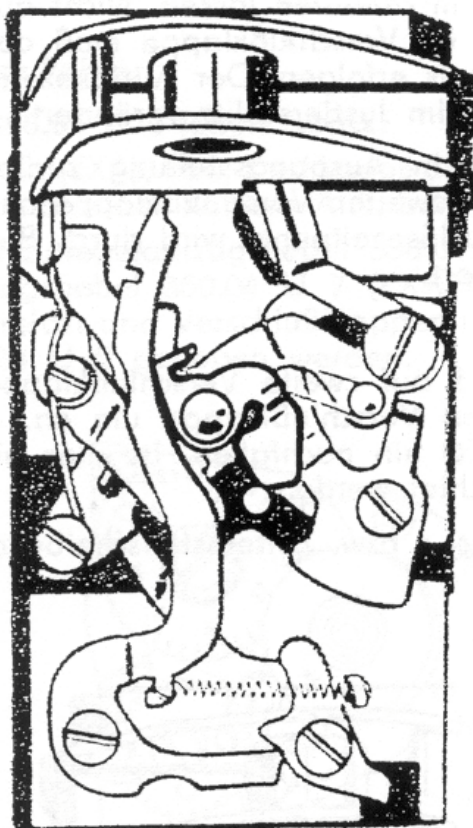

Fig. 4
- j) Holding the first shutter flap with a finger, fire the shutter and let the first shutter flap run slowly. The release pin for the shutter flap (see Fig.4), must now release the second shutter flap in the indicated position. If this does not occur, the trip lever 350.04-13 [the long vertical lever] must be bent at its lower end.